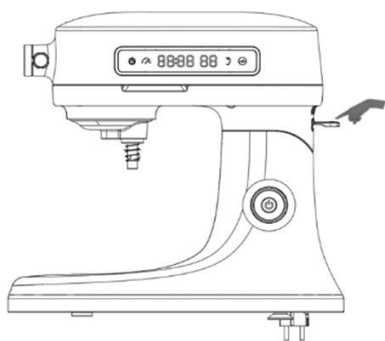
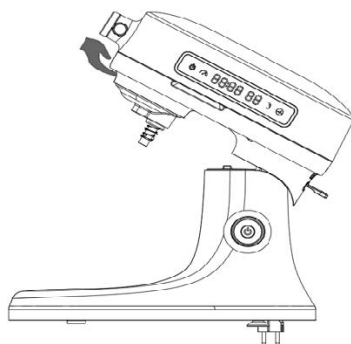
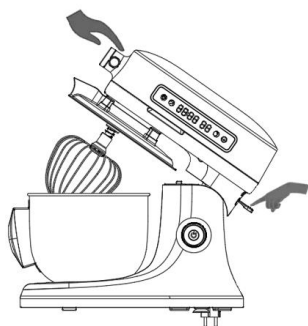

Figure 1
Figure 2
Figure 3
Insert the dough hook (beater/whisk) into the planet shaft so that the square groove of the dough hook is aligned with the planet shaft as shown in FIG 1. At the same time, insert the tool into the slot of the planet wheel shaft, push it slightly upwards and then turn the tool holder counter-clockwise until the shaft pin is aligned with the clip, as shown in Figure 3, i.e. the tool is installed. During installation, the nose should be raised for ease of operation. Once the mixing bowl has been installed, place the nose in a horizontal position as shown in Figure 4 (Note: the machine cannot be connected to the power supply while the kneading hook and other accessories are being installed!)
1. Place the packed machine on the table, hold the head with your left hand, then press the head up button down with your right hand (Figure 1), the head will automatically lift up, the left hand gently holds the head up until it clicks, the machine is fully open and locked (Figure 2).
2. Raise the head, place the bowl in the base and turn clockwise to lock (see installation instructions for specific operation) in Figure 3.
3. Place the whisk in the accessory receptacle (see installation instructions for specific operation) in Figure 3.
9. Push the head-up to the right and hold the top housing to complete Figure 3.